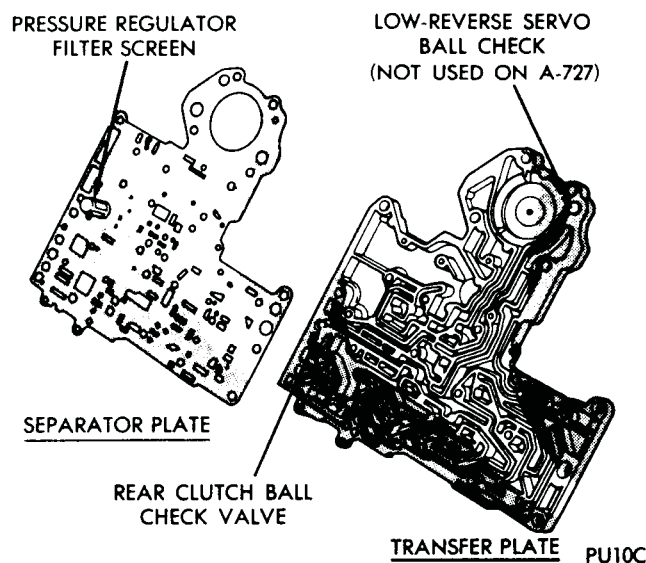

Fig. 4—Transfer Plate and Separator Plate
- (1) Raise vehicle on a hoist.
- (2) Loosen oil pan bolts, tap the pan to break it loose allowing fluid to drain, then remove oil pan.
- (3) Loosen clamp bolts and remove throttle and shift levers from transmission.
- (4) Pull wire connector from combination back-up lamp/neutral start switch.
- (5) Unscrew and remove switch from transmission case (Fig. 4).
- (6) Disconnect electronic lock-up solenoid wire from inside of wiring connector at rear of transmission case, if so equipped.
- (7) Place a drain pan under transmission, then remove the ten hex-head valve body transmission case bolts. Hold valve body in position while removing the bolts.
- (8) While lowering valve body down out of transmission case, pull it forward out of the case. If necessary, rotate propeller shaft to align parking gear and sprag to permit knob on end of parking control rod to pass the sprag.
- (9) Remove accumulator piston and spring from transmission case. Inspect piston for nicks, scores, and wear. Inspect spring for distortion. Inspect rings for freedom in piston grooves and wear or breakage. Replace parts as required.
(2) Remove top and bottom screws from spring retainer and adjustment screw bracket.
(3) Hold spring retainer firmly against spring force while removing last retaining screw from side of valve body.
(4) Remove spring retainer, with line and throttle pressure adjusting screws (do not disturb setting) and the line pressure and switch valve regulator springs.
(5) Slide switch valve and regulator valve out of their bores.
(6) Remove screws from lock-up module (or stiffener plate) and carefully remove tube and lock-up module (or stiffener plate). Disassemble lock-up module, tagging springs. Nonlock-up A-904T, for California models, use an empty lock-up body instead of a stiffener plate.
(7) Remove transfer plate retaining screws and lift off transfer plate and separator plate assembly.
(8) Remove lock-up solenoid retaining screw and pull solenoid from its bore in transfer plate, if so equipped.
(9) Remove three screws from separator plate and separate parts for cleaning (Fig. 4).
(10) Remove rear clutch ball check, reverse servo ball check, and line pressure regulator valve screen from separator plate for cleaning (Fig. 4).